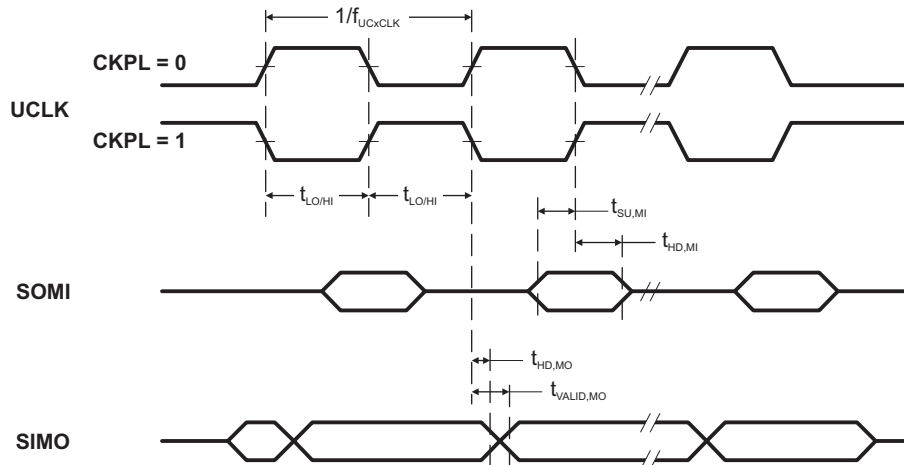
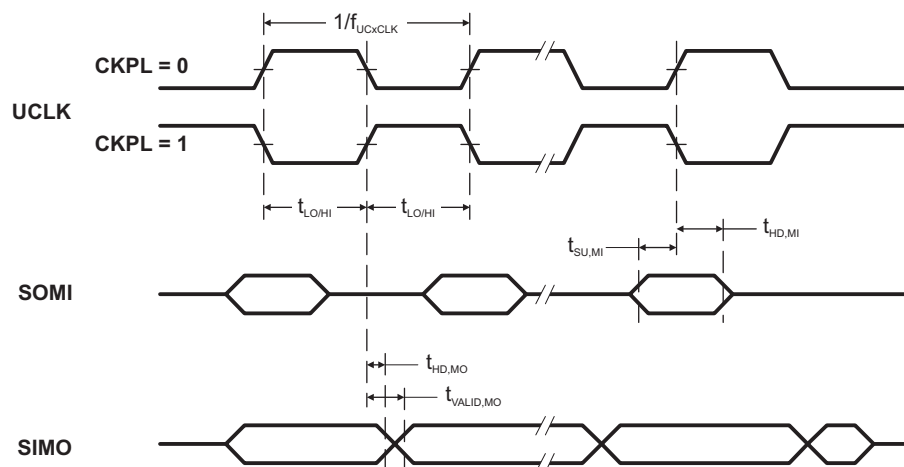

Figure 11. SPI Master Mode, CKPH = 0
Figure 12. SPI Master Mode, CKPH = 1
(see Note (1), Figure 11 and Figure 12)
- (2) Specifies the time to drive the next valid data to the SIMO output after the output changing UCLK clock edge. See the timing diagrams in Figure 11 and Figure 12.
- (3) Specifies how long data on the SIMO output is valid after the output changing UCLK clock edge. Negative values indicate that the data on the SIMO output can become invalid before the output changing clock edge observed on UCLK. See the timing diagrams in Figure 11 and Figure 12.
- (2) Specifies the time to drive the next valid data to the SOMI output after the output changing UCLK clock edge. See the timing diagrams in Figure 11 and Figure 12.
- (3) Specifies how long data on the SOMI output is valid after the output changing UCLK clock edge. See the timing diagrams in Figure 11 and Figure 12.